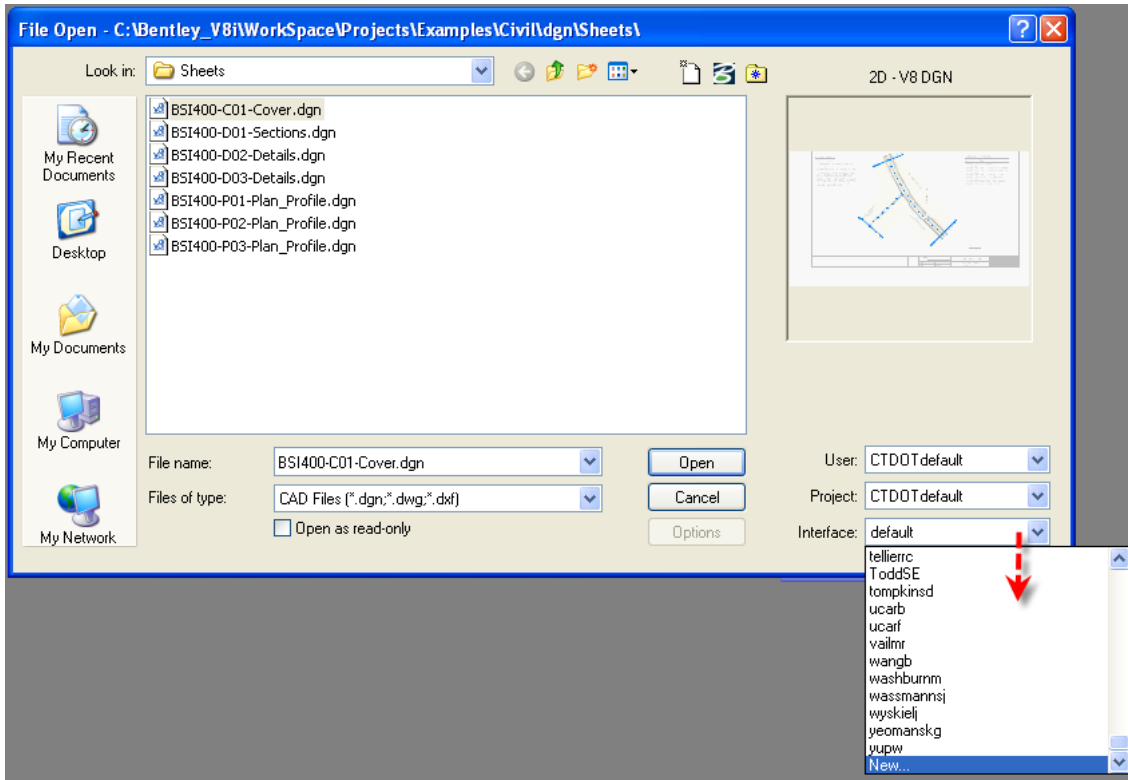
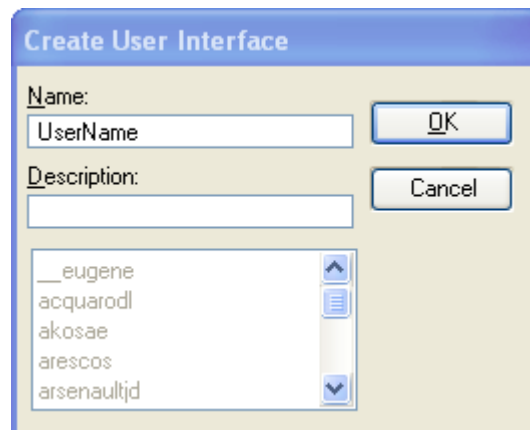

Figure 1-3 MicroStation Open File Dialog Box
Figure 1-4 MicroStation Create User Interface Dialog Box
- D. The first time into MicroStation V8i the “out of the box” MicroStation Manager Interface will appear. Select the **Interface** pull down first, pick **New** (Figure 1-3) and type in your user name (Figure 1-4). **It must match your computer login exactly and it is case sensitive.** Click the **OK** button.